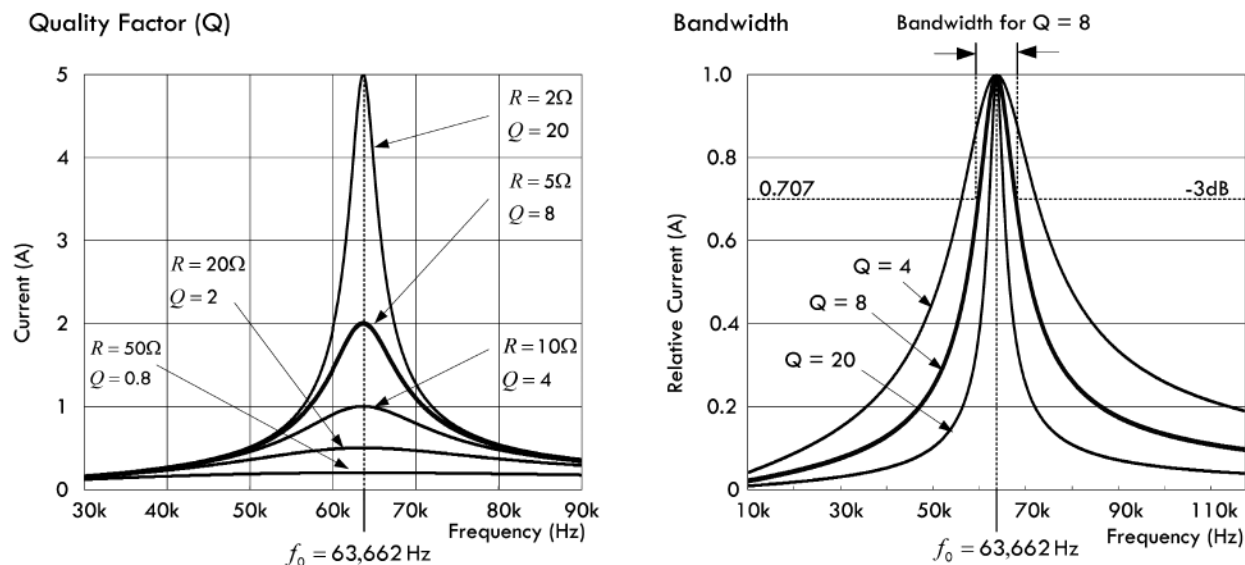

FIGURE 2.179
As mentioned earlier, the ratio of reactance or stored energy to resistance or consumed energy is by definition the quality factor Q . (Q is also referred to as the figure of merit, or multiplying factor.) As it turns out, within a series RLC circuit (where R is internal resistance of the components), the internal resistive losses within the inductor dominate energy consumption at high frequencies. This means the inductor Q largely determines the resonant circuit Q . Since the value of Q is independent of any external load to which the circuit might transfer power, we modify the resonant circuit Q , by calling it the unloaded Q or Q_U of the circuit. See Fig. 2.179.
As you can see, if we increase the resistance, the unloaded Q decreases, giving rise to broad current response curves about resonance, as shown in the graph in Fig. 2.179. With resistances of 10, 20, and 50 Ω , the unloaded Q decreases to 4, 2, and 0.8, respectively. Conversely, if the resistance is made smaller, the unloaded Q increases, giving rise to a sharp current response curve about resonance. For example, when the resistance is lowered to 2 Ω , the unloaded Q becomes 20.
An alternative way of expressing the sharpness of a series-resonant circuit is using what is called bandwidth. Basically, what we do is take the quality factor graph in Fig. 2.179 and convert it to the bandwidth graph in Fig. 2.179. This involves changing the current axis to a relative current axis and moving the family of curves for varying Q values up so that all have the same peak current. By assuming that the peak current of each curve is the same, the rate of change of current for various values of Q and the associated ratios of reactance to resistance are more easily compared. From the curves, you can see that lower Q circuits pass frequencies over a greater bandwidth of frequencies than circuits with a higher Q . For the purpose of comparing tuned circuits, bandwidth is often defined as the frequency spread between the two frequencies at which the current amplitude decreases to 0.707 or $1/\sqrt{2}$ times the maximum value. Since the power consumed by the resistance R is proportional to the square of the current, the power at these points is half the maximum power at resonance, assuming that R is constant for the calculations. The half-power, or -3 -dB, points are marked on the drawing.
For Q values of 10 or greater, the curves shown in Fig. 2.179 are approximately symmetrical. On this assumption, bandwidth (BW) can be easily calculated: